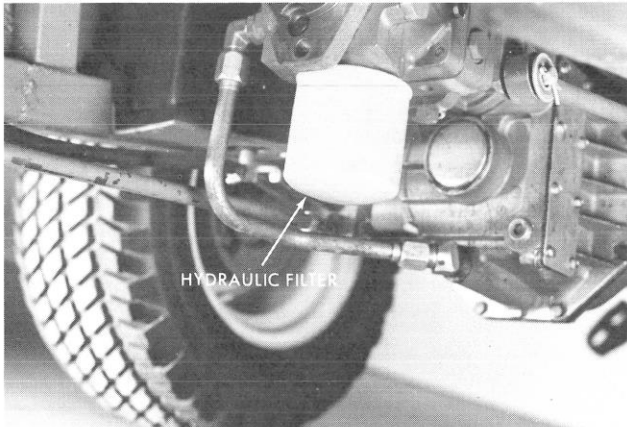

Figure 35
**Hydraulic Pump & Differential** – The hydraulic pump and differential assembly have a common oil supply. Change the hydraulic filter after the first 10 hours of operation. See Figure 35. Every 50 hours, place the unit on a level surface and check the oil level. Remove the filler cap dipstick assembly. The oil level should be up to the mark on the dipstick. If necessary, replenish with SAE 10W-40 Grade SE-SC oil.